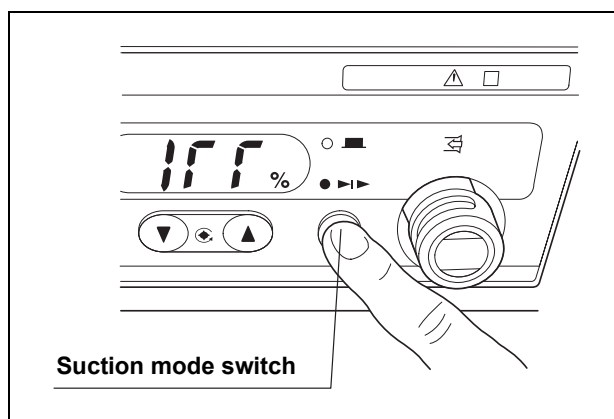

Figure 3.9
1. Press the suction mode switch several times. Confirm that the normal suction mode lamp and the laparoscopic suction mode lamp light up alternately, and that the pinch valve opens and closes alternately (see Figure 3.9).